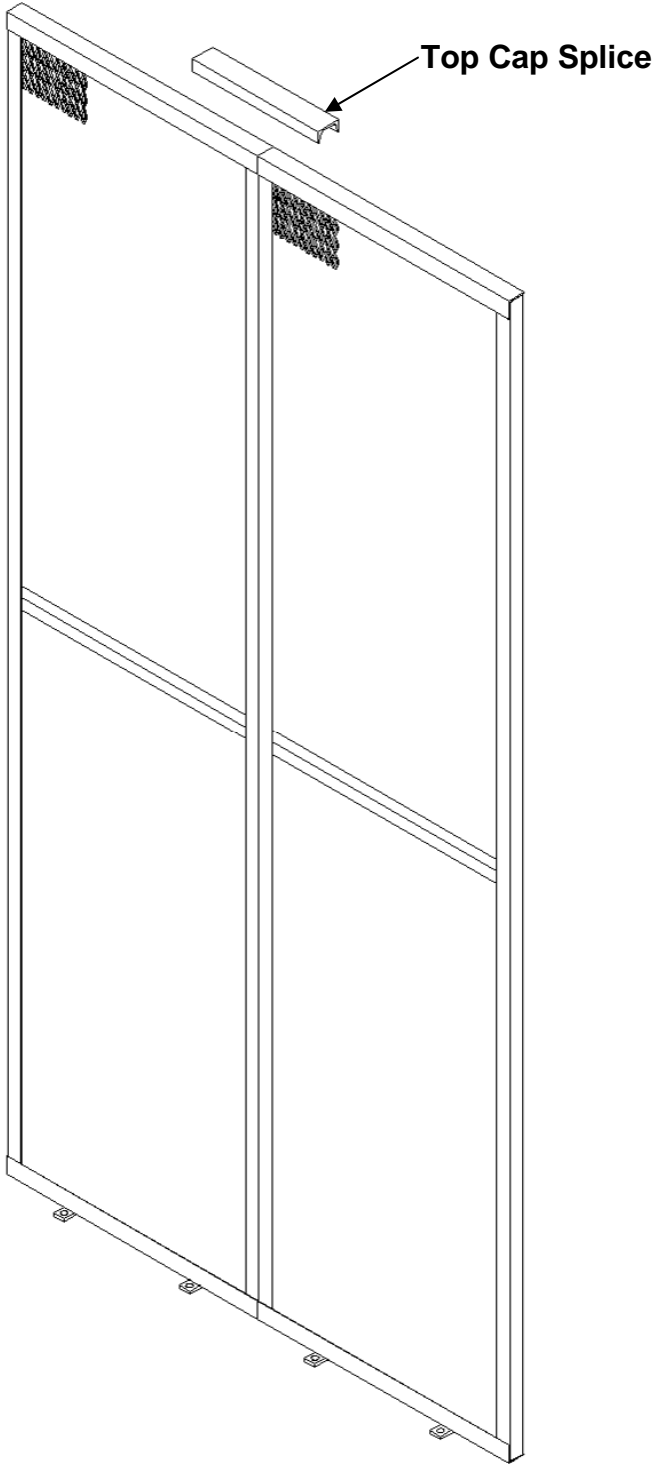

Figure 20 - Top Cap Splice
5. Mount the 12” long top cap splice across the top of the enclosure panel and attach using TEK screws (see **Figure 20**).